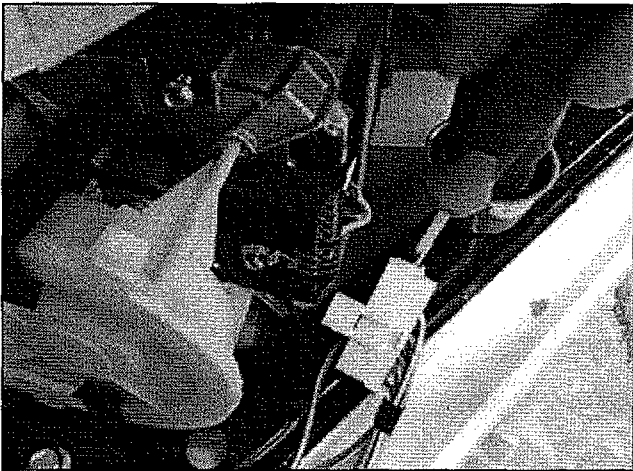

FIGURE 9
10. Unplug washer motor harness. See Figure 9.